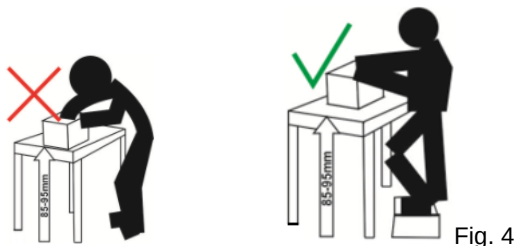

Fig. 4
- Never put yourself in a position where your face is exposed to burns caused by hot water vapours from the container. Use the correct posture (Fig. 4) when immersing and removing the eggs baskets from the container,
- Place it on a stable, flat and rigid surface. For optimum user comfort, the appliance must be placed between **85 and 95 cm** from the ground (Fig. 4).